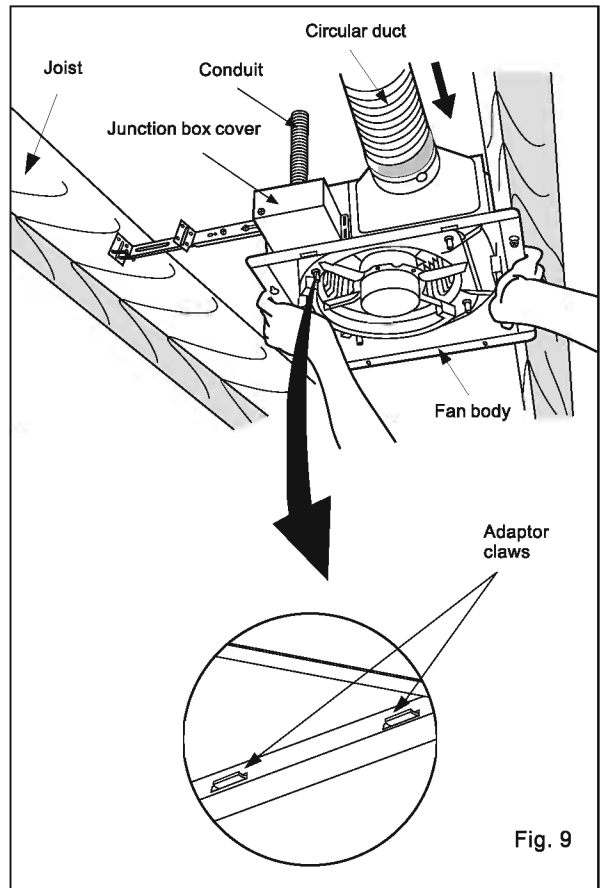

Fig. 9
5. Insert the fan body into joists. (Fig. 9)
4. Insert fan body (without blower section) into joists. (Fig. 9)